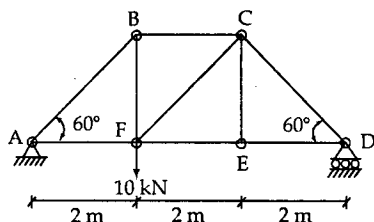

Fig. 9
6. (a) For the truss shown in the fig.9, mark the zero force members and find the forces in the rest of the members. 7+7